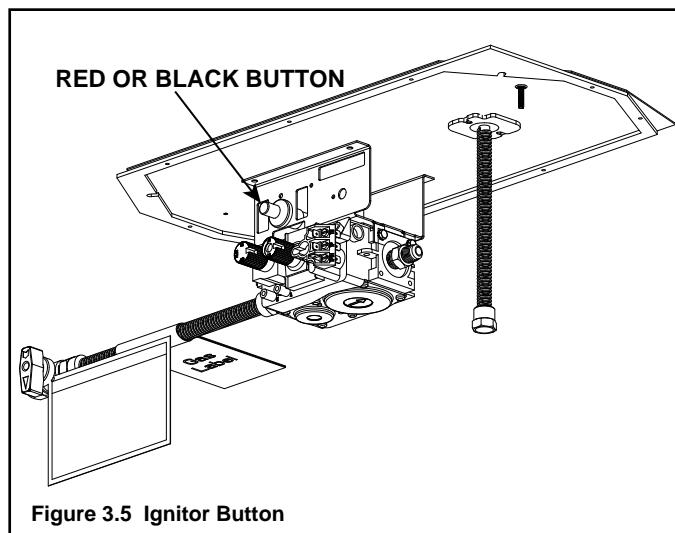

Figure 3.5 Ignitor Button
- A standing pilot ignition will have a red or black ignitor button (refer to Figure 3.5).